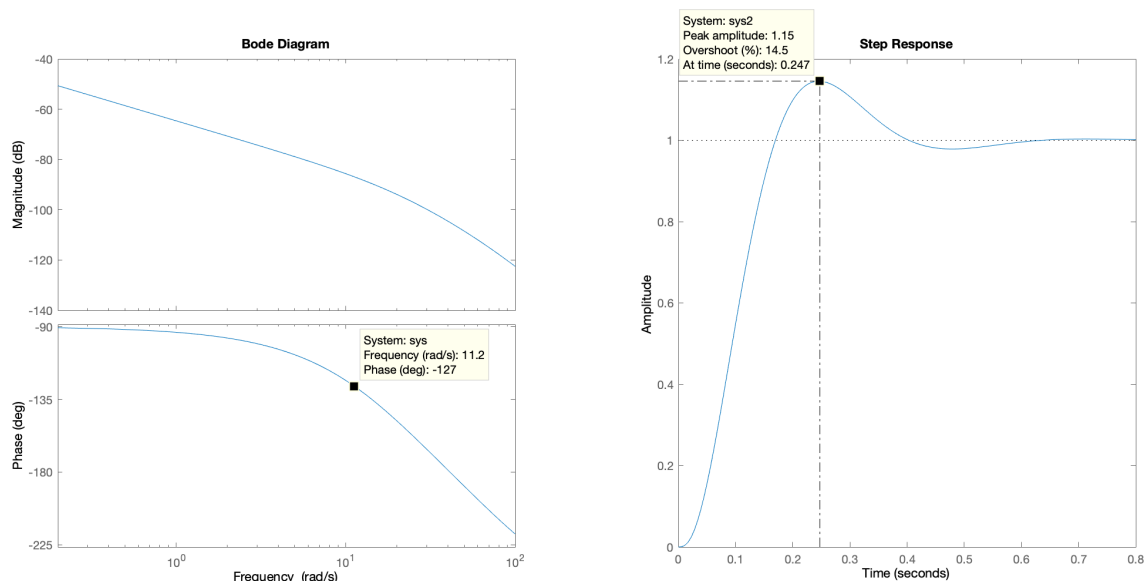

Figure 1: **Left:** Bode-plot and required phase margin and **Right:** Step response of final system
- The phase which yields this phase margin is $\phi = -180 + \Phi_M = -127$. Dragging the cursor on the Bode plot we find the phase is -127 when $\omega = 11.2$ rad/s. See Figure 1 for details.
- The overshoot is 14.5 % so we have met the design specifications. See Figure 1.